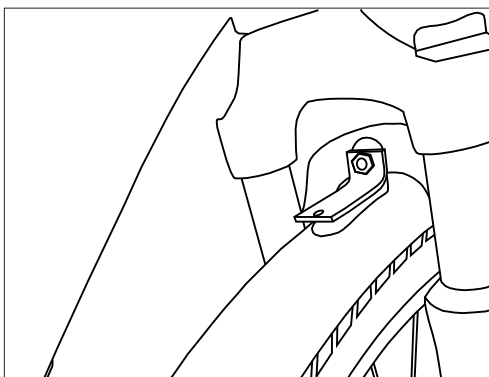

Fig. 21: Fender in place with nut and L bracket re-attached.
3. Replace the L shaped bracket and nut by sliding the bracket over the mounting bolt, and threading the nut onto the bolt. The slotted hole of the fender should be sandwiched between the L shaped bracket and the fork arch (Fig 21).